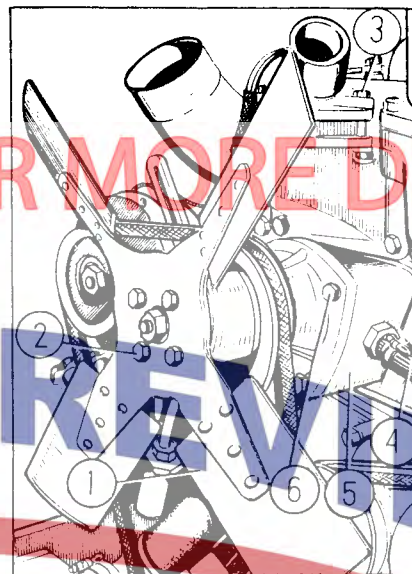

Figure 4. Water Pump and Fan
2. Unscrew the four M8 x 20 bolts (Figure 4, No. 2) which secure the ventilation fan (Figure 4, No. 1); remove the fan.
3. Unscrew the four M10 nuts (Figure 4, No. 6); remove the bearing housing.
4. Loosen the clamp (Figure 4, No. 4) on the rubber hose; remove the rubber hose.